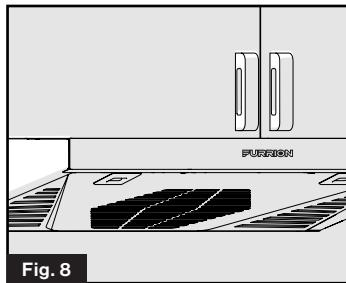

Fig. 8
8. The grill cover is securely attached to the range hood. (Fig. 8)